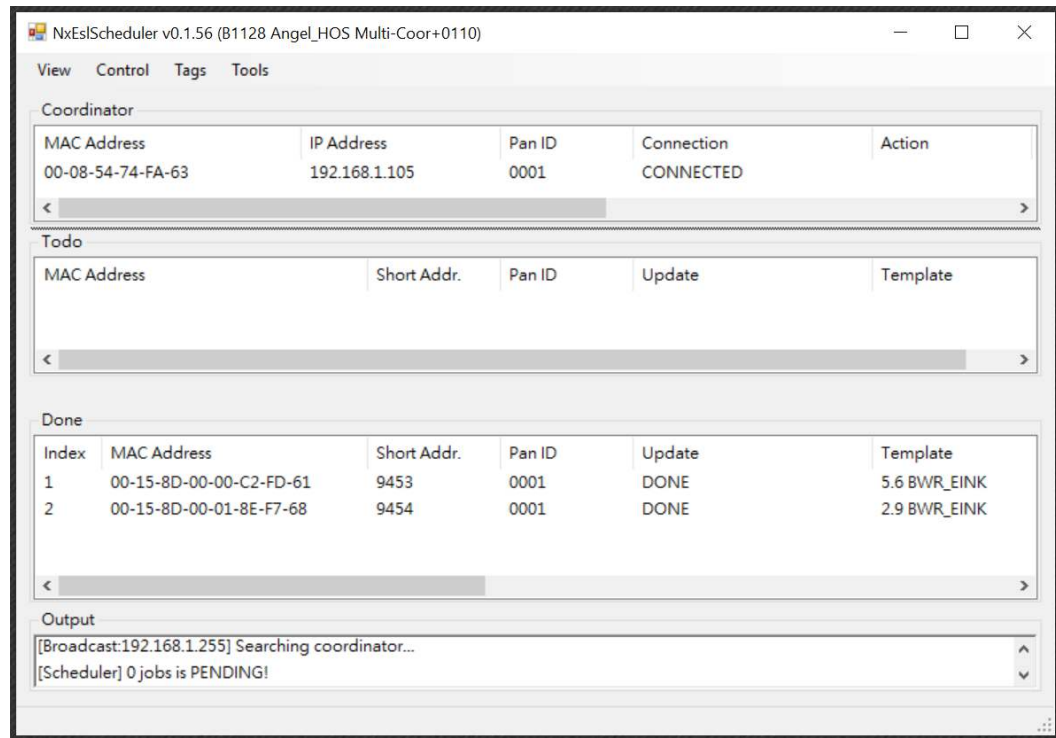

Fig. 14
3. When the Join, Update and Transfer functions are complete, the **Done** list shows the e-Tag update results. See Figure 14.